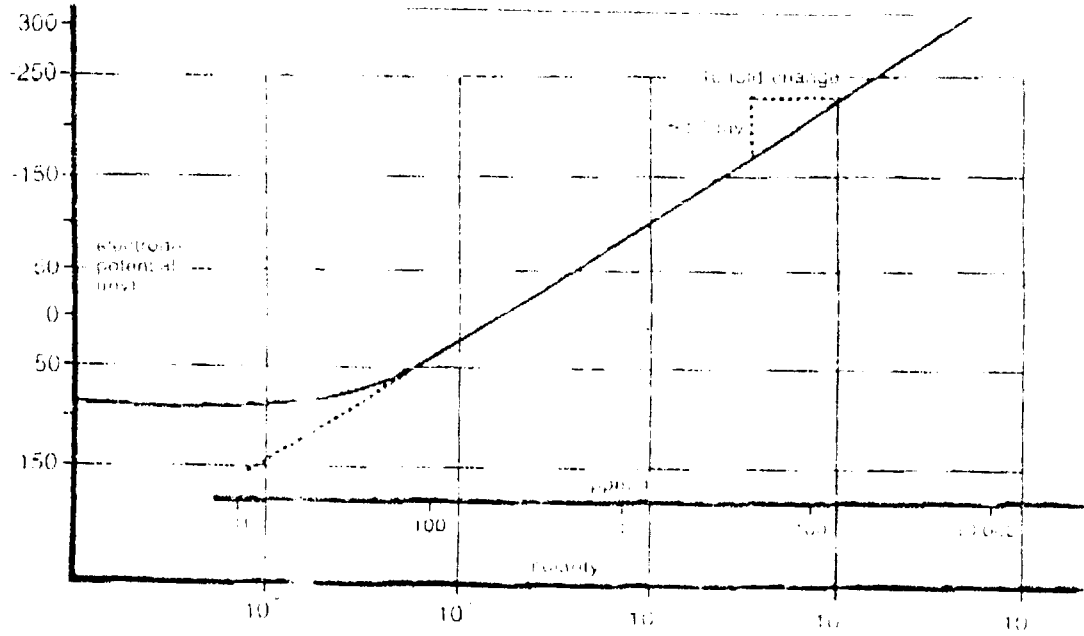
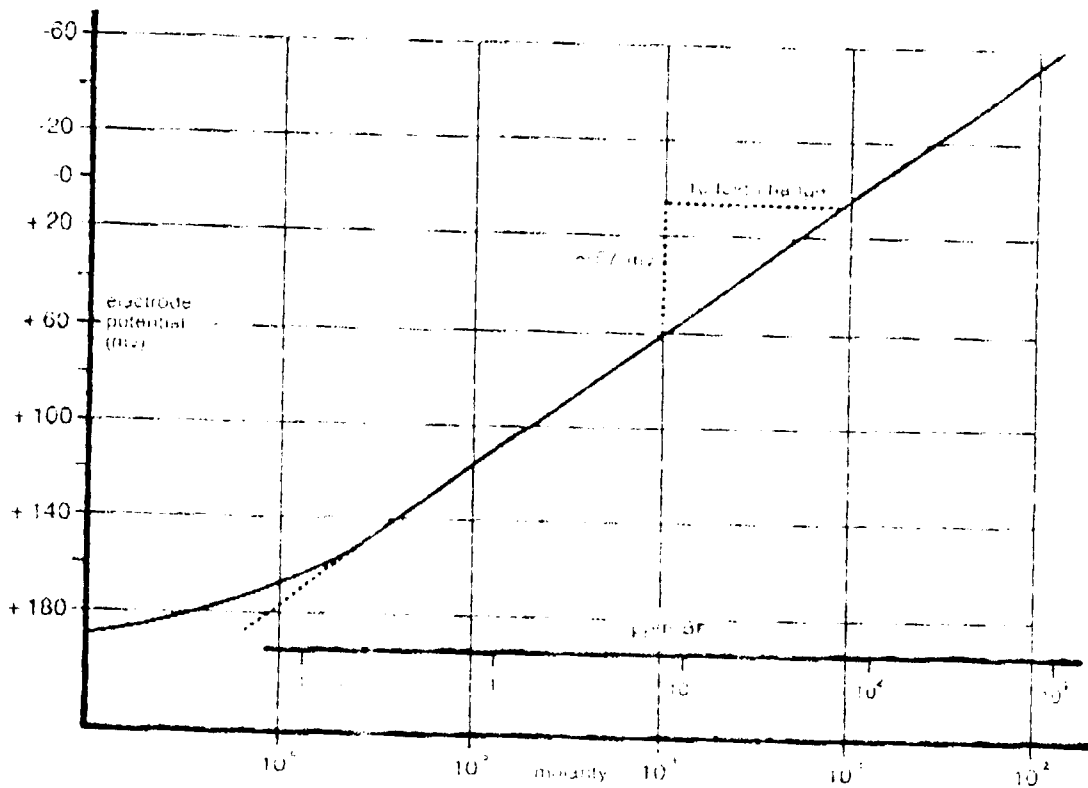

Figure 3-1 Typical Iodide Electrode Calibration Curve
Figure 3-2 Typical Bromide Electrode Calibration Curve
5. Using the semi-logarithmic graph paper, plot the mV reading (linear axis) against the concentration (log axis). A typical calibration curve for Bromide can be found in Figure 3-1. A calibration curve for Iodide can be found in Figure 3-2.
7. On semi-logarithmic graph paper, plot the millivolt reading (linear axis) against the concentration (log axis) as in Figure 3-1.
Plotting the electrode mV potential against the bromide or iodide concentration on semi-logarithmic paper results in a straight line with a slope of about 58mV per decade. Refer to Figures 3-1 and 3-2.
Due to the very slight water solubility of the electrode membranes, the electrode respond not only to the halides in the sample, but also to the ions dissolved from the membranes. The solid line (actual response) in Figures 3-1 and 3-2 and the dashed line (theoretical response) show a discrepancy due to response of the electrode to the dissolved membrane at low levels. See Section 3.6 for measurement procedures in the low level range.